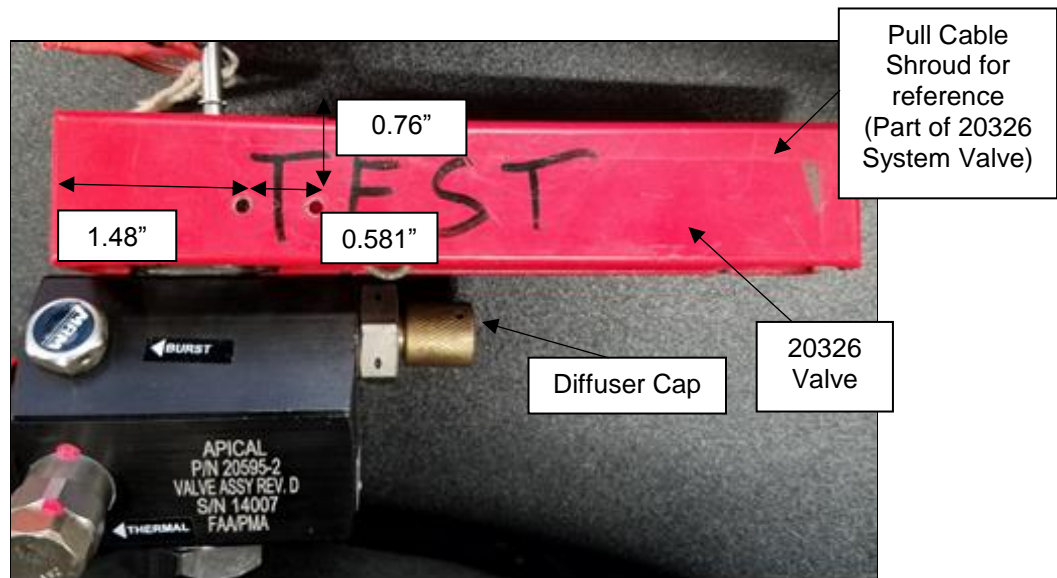

Figure 1: Valve Pull Cable Test Tool Hole Locations (No Test Tool Installed)
3. Using a 1/8" drill bit, drill two holes into one side of the reservoir valve as shown (Figure 1).